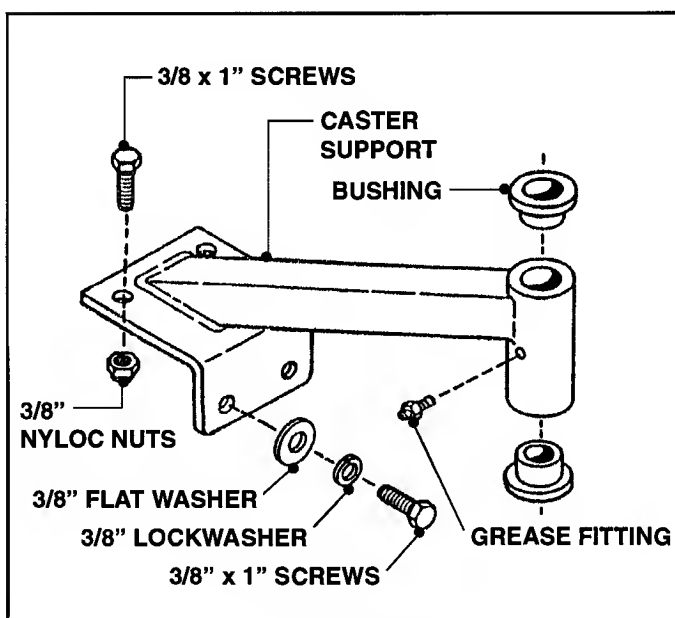

FIGURE 3.4
- B. Remove the four 3/8 x 1" screws, 3/8 lockwashers, 3/8 flat washers and 3/8 nyloc nuts which secure the caster support to mower deck and install new support, using the same 3/8 x 1" screws, lockwashers, flat washers and nyloc nuts. See Figure 3.4.